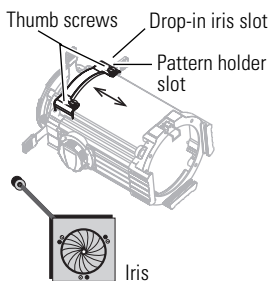

Figure 6
1. Loosen the thumb screws on the drop-in iris slot cover. Do not remove the screws. See **Figure 6**.